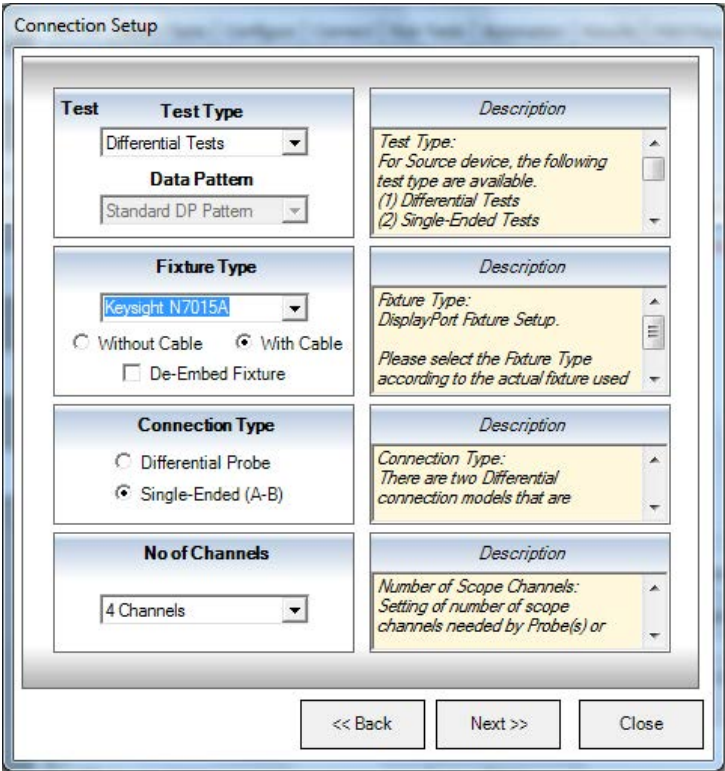

Figure 4. DisplayPort EPVC software Test Connection Setup Screen.
- Test fixture selection: Select the test fixture used. See Figure 4.
- Connection type: Single-ended vs. differential connection: Choose between using two channels of the scope to make a differential measurement using an 'A minus B' technique or by using differential probe on each scope channel for each lane, see Figure 4.
- Number of channels: You may choose to test 1, 2, or 4 channel connection. (Note: Differential connection allows full lane selection, while single-ended can only support testing 1 or 2 lanes). See Figure 4.
A new capability to the DP EPV&C software is to define data pattern; selections are standard DP pattern and arbitrary data pattern (shown in Figure 4). Standard DP pattern is used for compliance testing while the arbitrary data pattern can be used to evaluate actual DisplayPort signals.